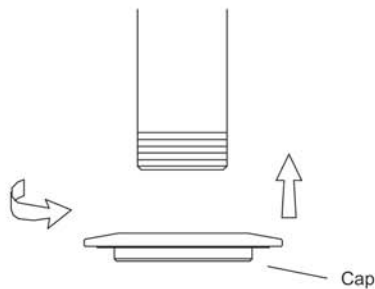

FIG.20
- D-3.** Drive a cap on the pipe. (FIG. 20)